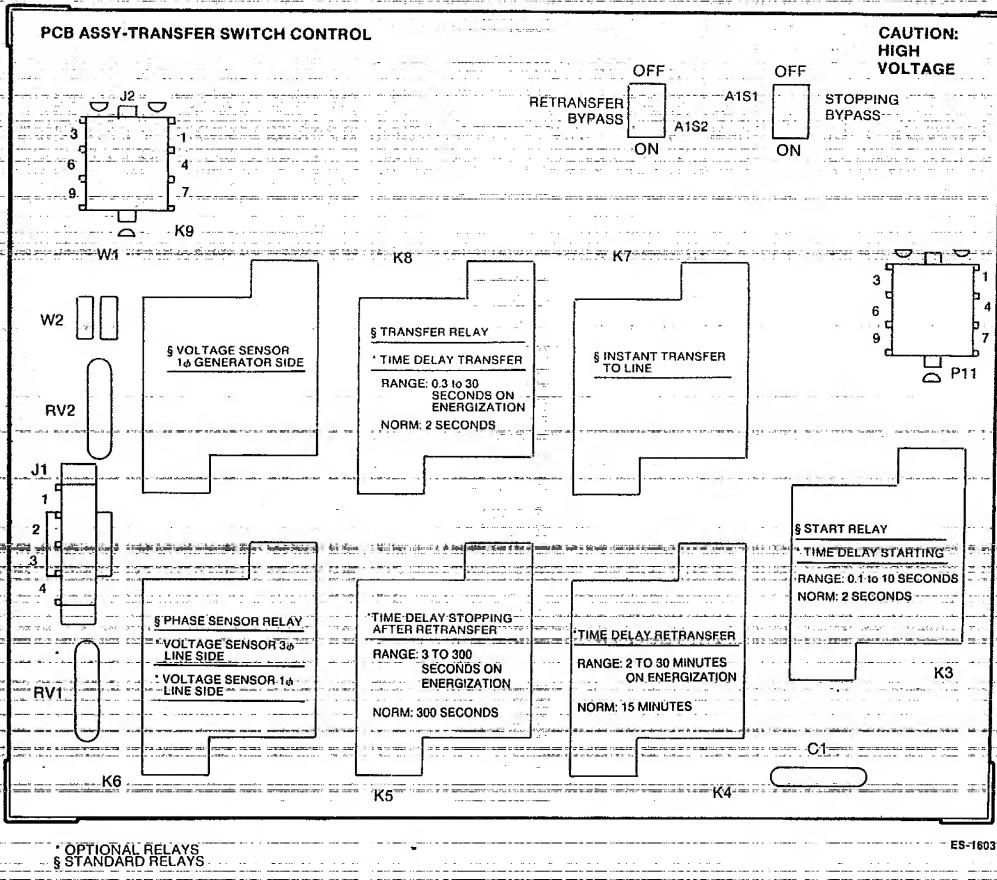

FIGURE 2-4. CONTROLLER PCB ASSEMBLY.
- **Controller PC Board Assembly (A1)** - this control board contains the necessary monitoring and time delay relays for automatic operation of the transfer switch (Figure 2-4). The components vary by options ordered. Refer to Model Number System and the following descriptions to identify the control relays specific to your application.